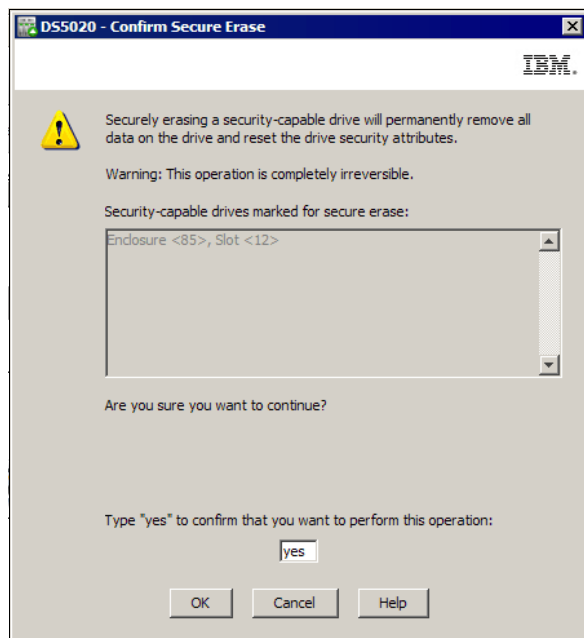

Figure 3-129 Confirm Secure Erase screen
2. Confirm the selection of the drive to be secure erased by entering “yes” and **OK** as shown in Figure 3-129.